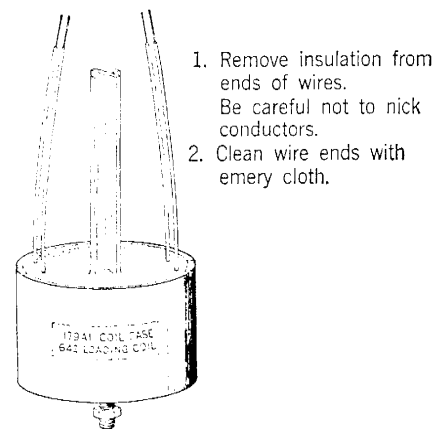

Fig. 8
**2.05** Prepare the ends of the conductors from the coil case as shown in Fig. 8.